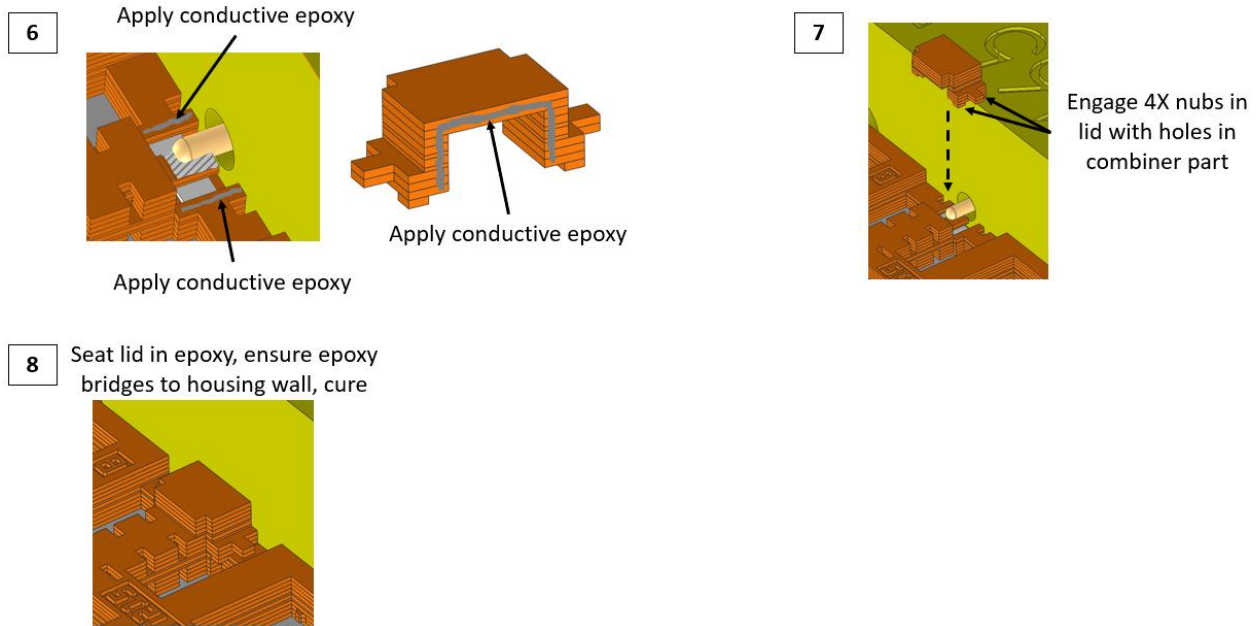

Figure 15: Coaxial Output Connection Assembly Steps 6 through 8
6. Sparingly apply epoxy in the areas shown in preparation for lid attach (see Figure 15).